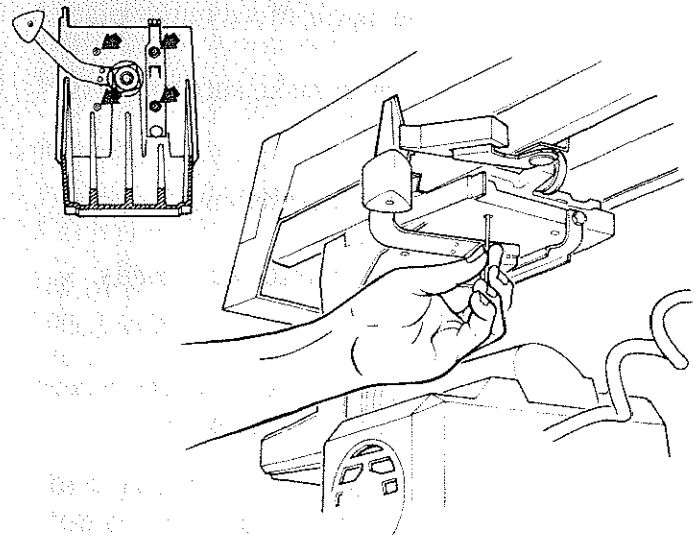

Fig. 62
7. Loosen the four screws under the *yoke* using a 1/8 inch hex-L wrench and pliers if necessary. (Figure 62)